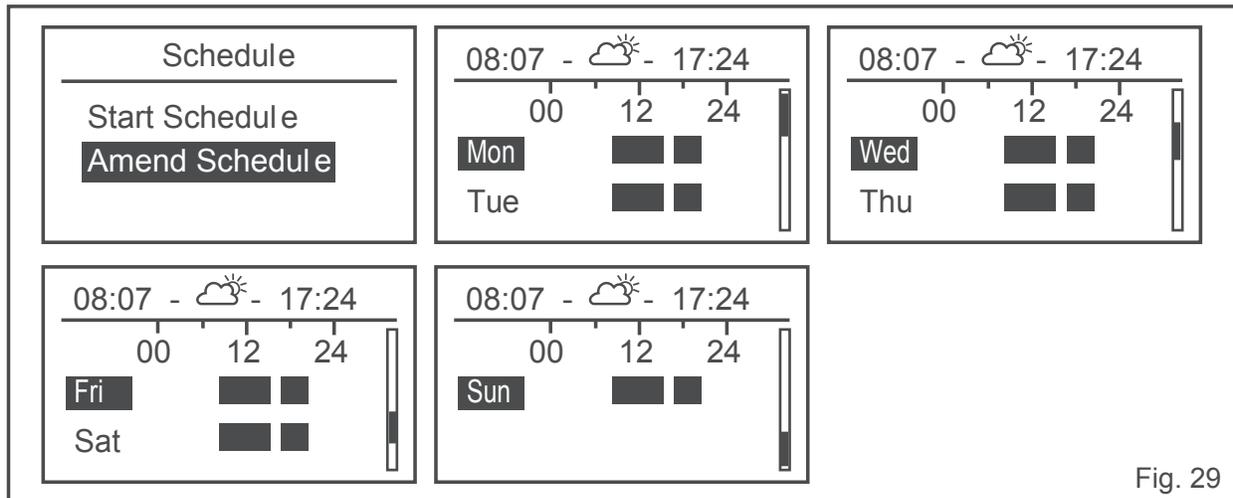

Fig. 29
- Turn the Dial to select Amend Schedule, and then press the Dial to enter the schedule overview page (Fig. 29).
- Turn the dial to toggle through the daily schedules (Fig. 29).